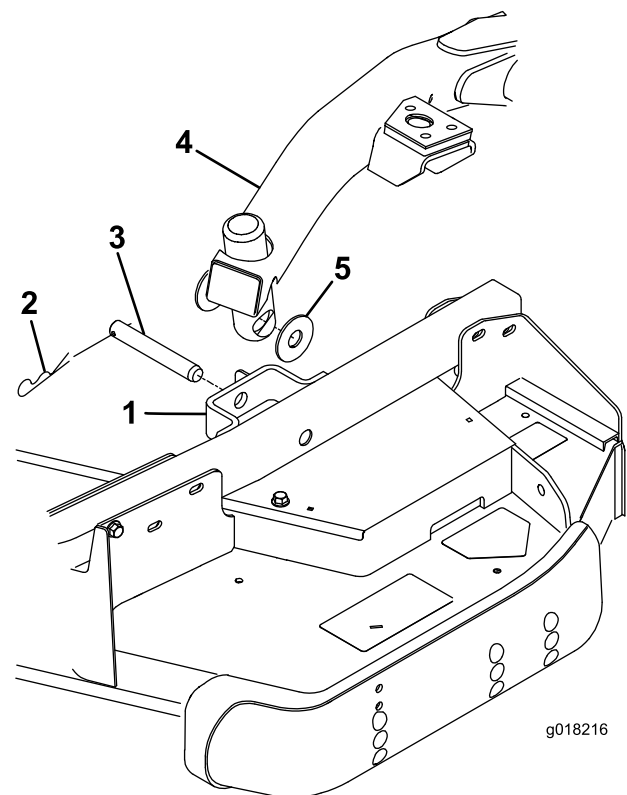

Figure 4
- Remove the (2) thrust washers, clevis pin and hairpin cotter from each castor arm bracket on the cutting unit (Figure 4).
- Press the lift switch forward to the Float position. Push a lift arm down until the holes in the lift arm line up with the holes in the castor arm bracket (Figure 4).
- Secure the lift arm to the castor arm with the (2) thrust washers, clevis pin and hairpin cotter. Position the thrust washers between the lift arm and the castor arm bracket (Figure 4). Insert end of cotter pin into the slot in the castor arm tab to retain cotter pin.